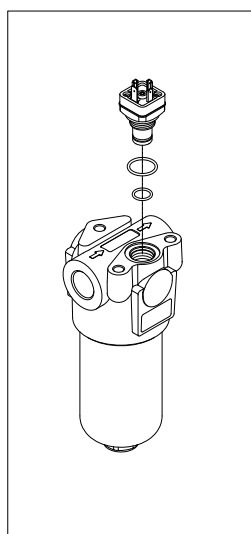

fig. 22
- (Fig. 22) Replace the O-rings of the indicator body